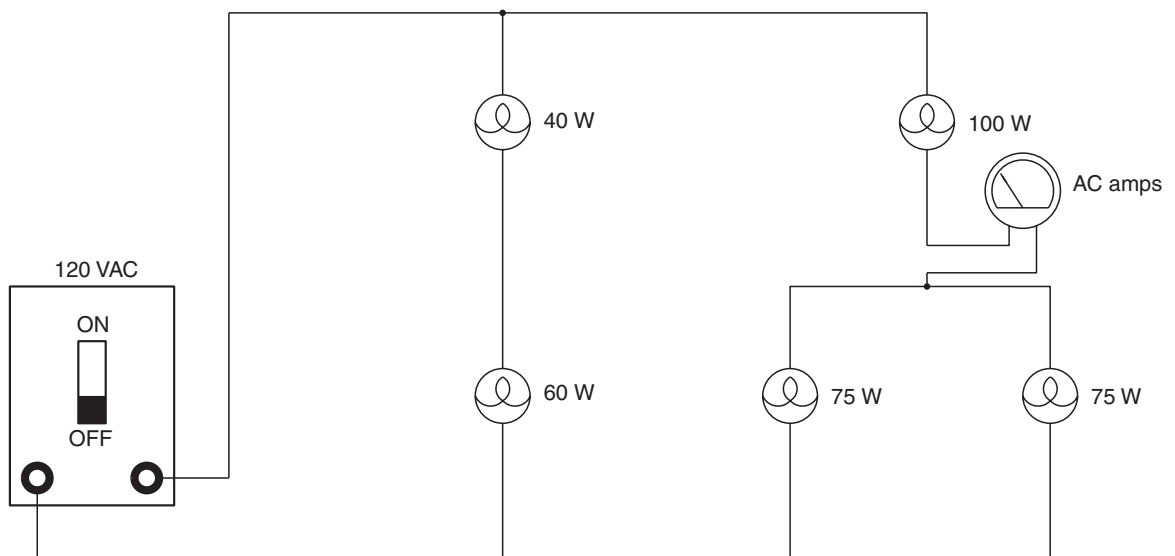

Figure 5-21 Measuring the current flow through the 100 watt and two 75 watt lamps.
28. Reconnect the AC ammeter to measure the current flow through the circuit branch containing the 100 watt and two 75 watt lamps in Figure 5-21. After making the connection, turn on the power and measure the current.